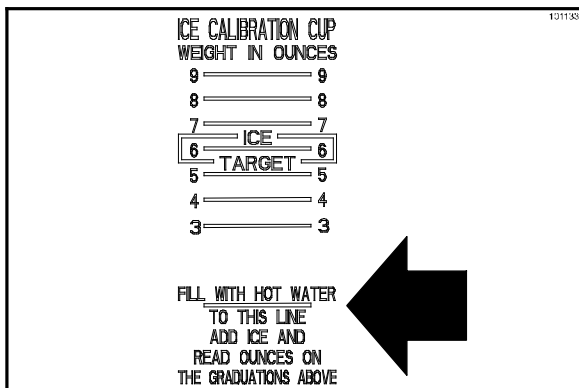

Figure 133
- Fill the large calibration cylinder with hot water from the coffee maker, up to the water level line. (See Figure 133.)